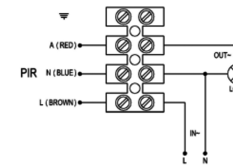

Figure 2.
- Connect the power to the connection terminal of an IP65 connector box (figure 2.).